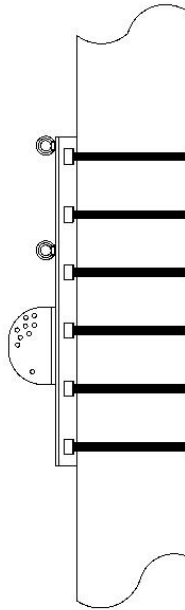

Figure 4b
The figure above illustrates the use of two independent bands per slot and also illustrates the use of all six slots. This is also shown in Figure 4b as well.
3. The loudspeaker, with loudspeaker bracket mounted, may now be placed on the pole bracket. (Main bracket, see figure 4b.)